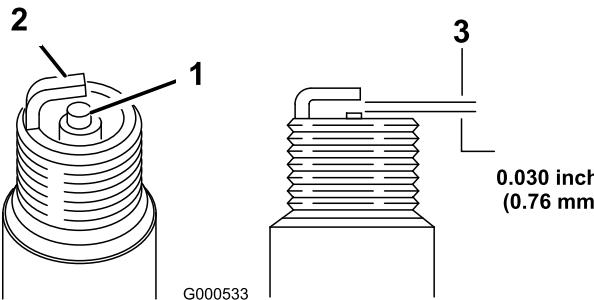

Figure 26
- Use your finger to coat the gasket on the new oil filter with oil (Figure 26).
- Set the gap on the plug to 0.76 mm (0.030 inch); refer to Figure 26.